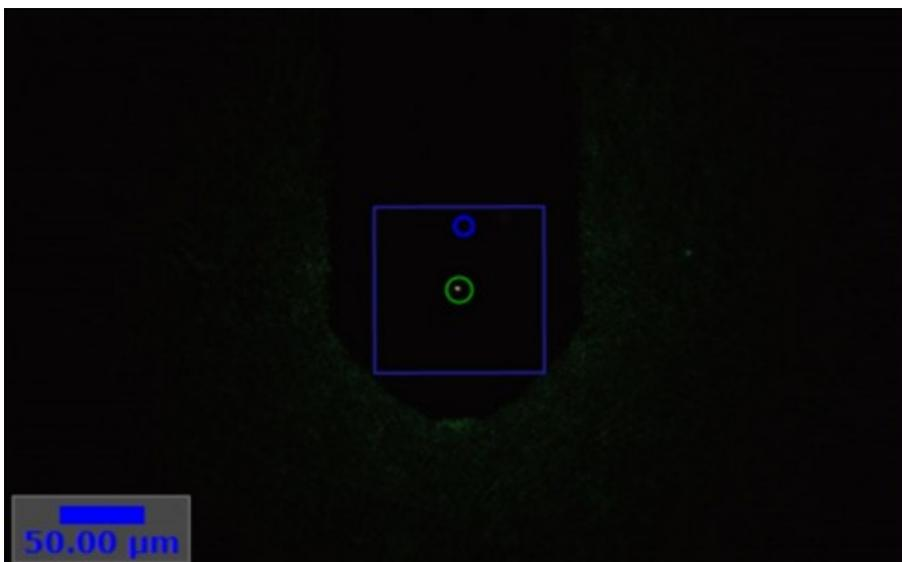

Fig. 2: SNOM cantilever with transmitted light (top view)
10. Slightly change the **cantilever position** to maximize the intensity of the light spot like in Fig. 2. Start with the z-axis.